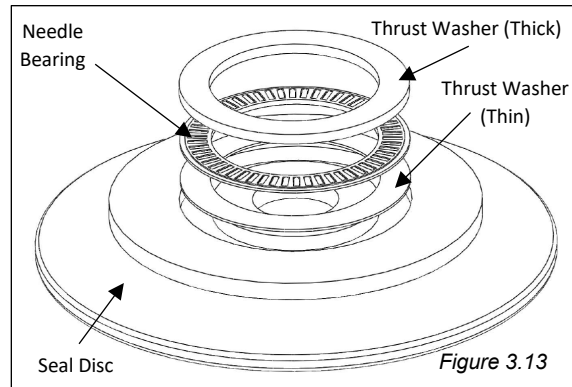

Figure 3.13
1. Remove the top thrust washer (thicker) (*Figure 3.13*).
2. Remove the needle bearing (*Figure 3.13*).
3. Remove the bottom thrust washer (thinner) (*Figure 3.13*).